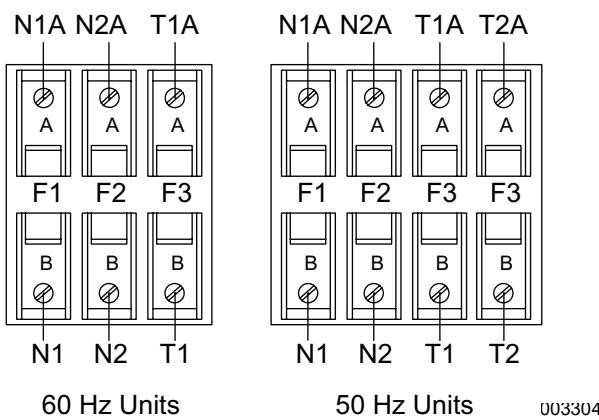

Figure 3-86. Transfer Switch Fuse Block
5. See **Figure 3-86**. Remove fuse F3 (T1) from the fuse holder.